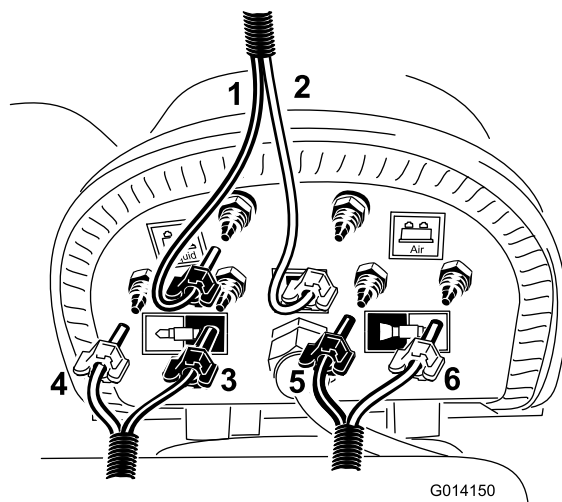

Figure 16
- C. Install the blue and clear tubes to the corresponding upper barbs on the compressor (Figure 16).
- F. Locate the foam hose routed to the left boom, and install the blue and white tubes to the locations as shown in Figure 16.
- G. Locate the foam hose routed to the right boom, and install the blue and white tubes to the locations as shown in Figure 16.